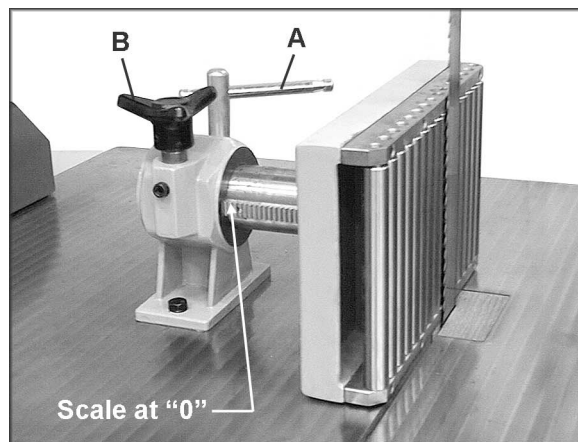

Figure 3
2. Loosen the handle (A, Figure 3) and rotate the knob (B, Figure 3) until the fence is right up to the blade; that is, the scale on the fence should be at "0".
3. Tighten the handle (A, Figure 3). If necessary, move the Fence slightly to bring it parallel with the blade.